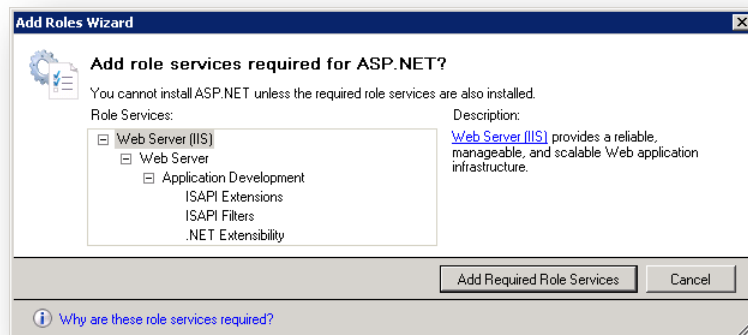
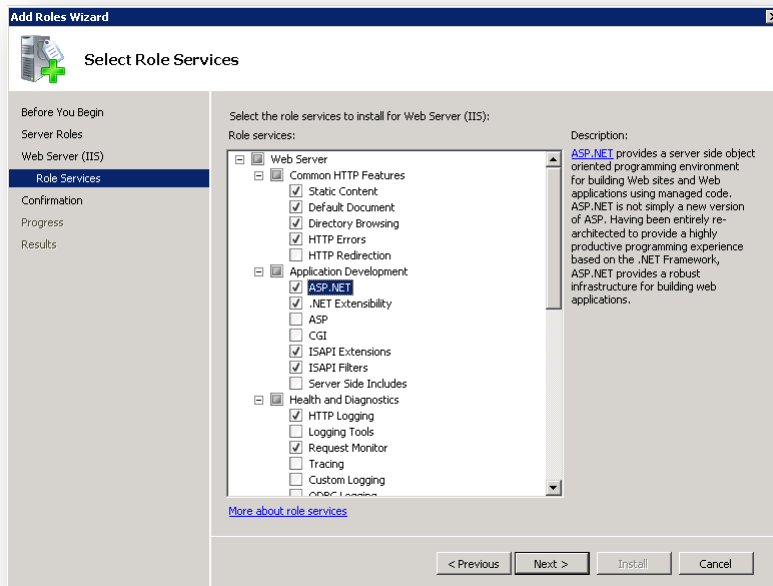

Figure 31 – Add Roles Wizard (Add role services required for ASP.NET)
Figure 32 – Add Roles Wizard (Select Role Services 1)
13. Verify that your selected Internet Information Services (IIS) options resemble Figure 31 and Figure 32 on the following pages and click “OK” to install Internet Information Services.